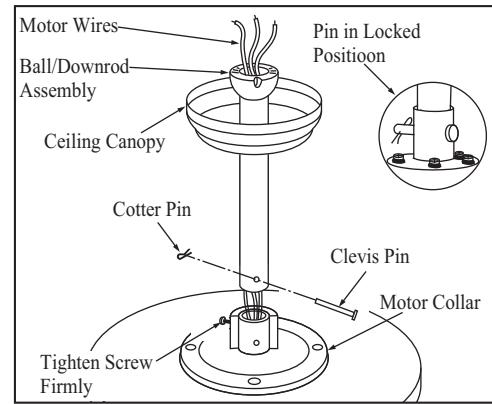

Figure 6
2. Route the wires through the canopy and then through the ball/downrod assembly. (Figure. 6)
4. Align the holes at the bottom of the downrod with the holes in the coupling on top of the motor housing. (Figure 6) Carefully insert the clevis pin through the holes in the collar and downrod. Be careful not to jam the clevis pin against the wiring inside the downrod. Insert the cotter pin through the hole near the end of
the clevis pin until it snaps into its locked position, as noted in the circle inset of Fig. 6.
5. Tighten two set screws on top of the fan motor firmly. (Figure 6)